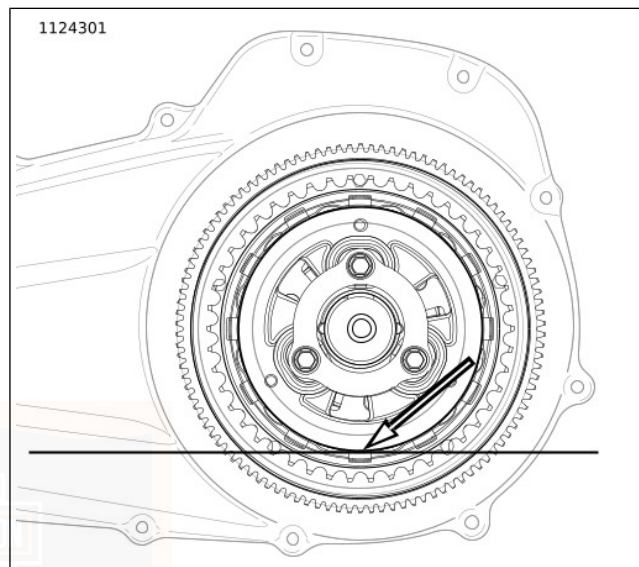

Figure 65. Primary Lubricant Level
- b. See Figure 65. Proper level is approximately at bottom of pressure plate OD.